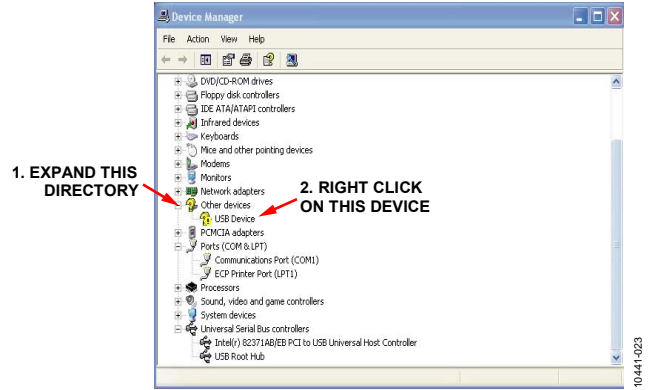

Figure 22. USB Device Not Recognized
2. Go to the **Hardware** tab, select **Device Manager**, and expand **Other devices** (see Figure 22). The computer has not recognized the USB device, that is, the **AD5933** evaluation board.